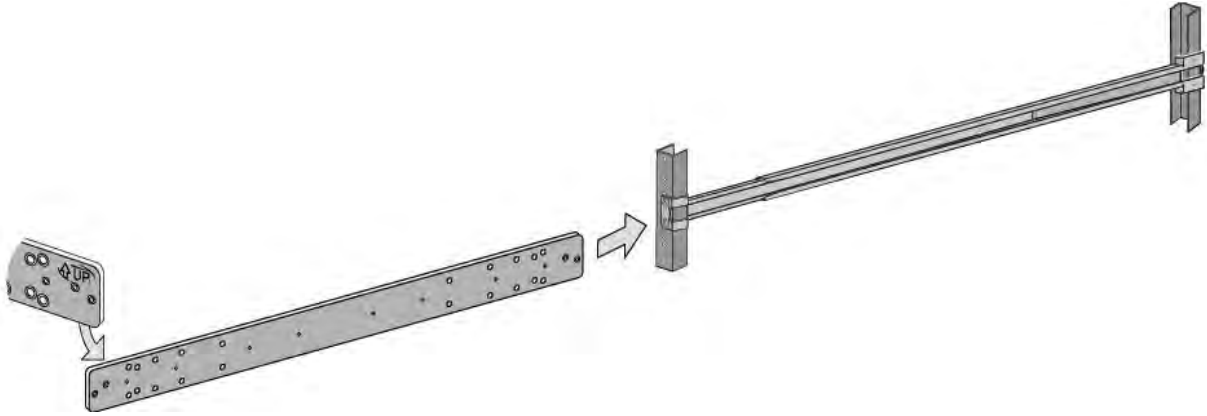

Figure 76. Inserting an Inner Rail into an Outer Rail
1. Slide one of the inner rails into an outer rail. Be sure that the UP arrow on the inner rail is pointing up. Refer to Figure 76 on page 211.